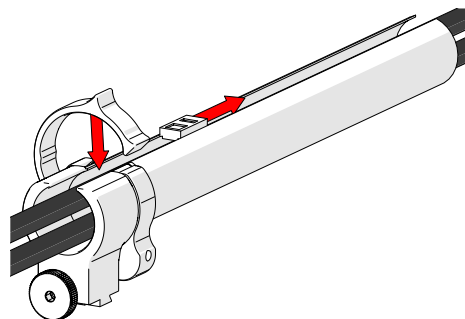

Fig. 81 - Zip up to close
2. Follow the cable placement, zipping the tube closed (*Fig. 81*).